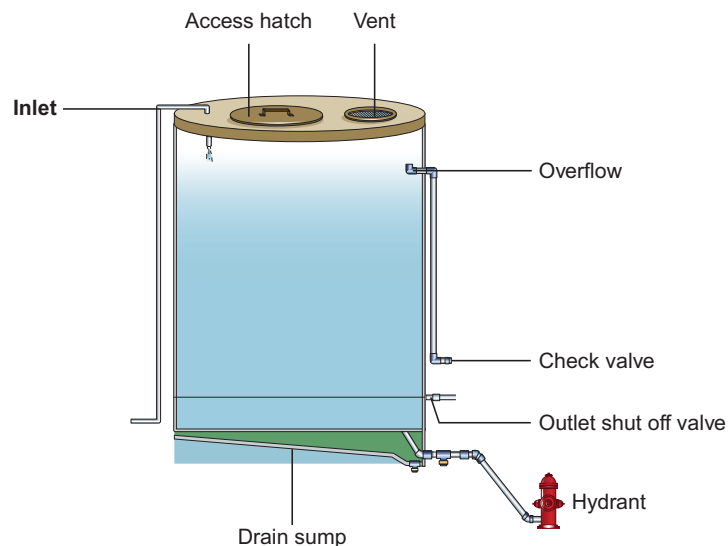

Figure 15.7 Sump.
- **Sump**—an area located at the bottom of a vessel that receives and temporarily stores drainage from the lowest point in that vessel. Figure 15.7 shows an example of a sump.